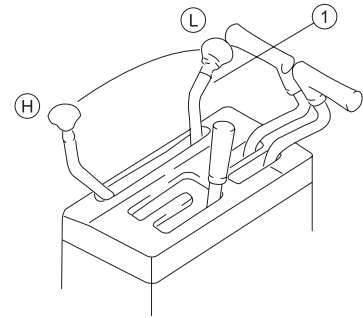

Figure 2-3
Fuel control lever (1) (Figure 2-3)